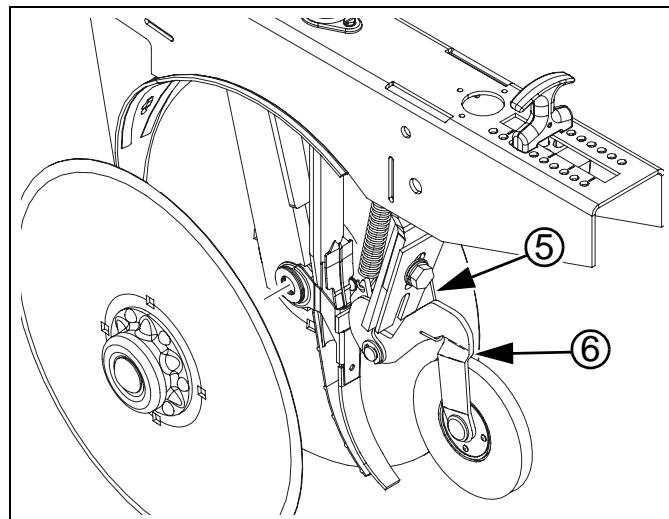

Figure 39
**Refer to Figure 39 (shown with an opener disc removed for clarity - this task can be performed with discs mounted)**